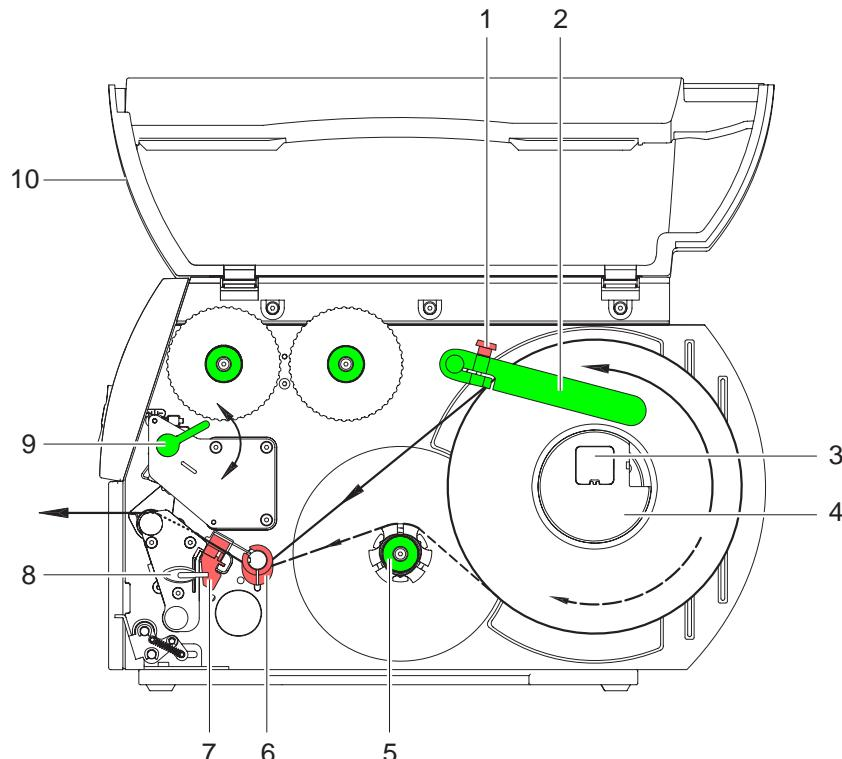

Fig. 5: Loading labels from a roll
i For adjustments and simple installation work, use the accompanying **hexagonal wrench** located in the bottom section of the print unit. See Fig. 5, Item 8. No other tools are required for the work described here.
- ⇒ Position label sensor with tab (3) in such a way that the sensor (1) can detect the label gap or a reflex or perforation mark.
- ⇒ Align label sensor using the tab (3) with the front edge of the label in the direction of paper flow.
- ⇒ Turn lever (Fig. 5, Item 9) clockwise to lock the printhead.